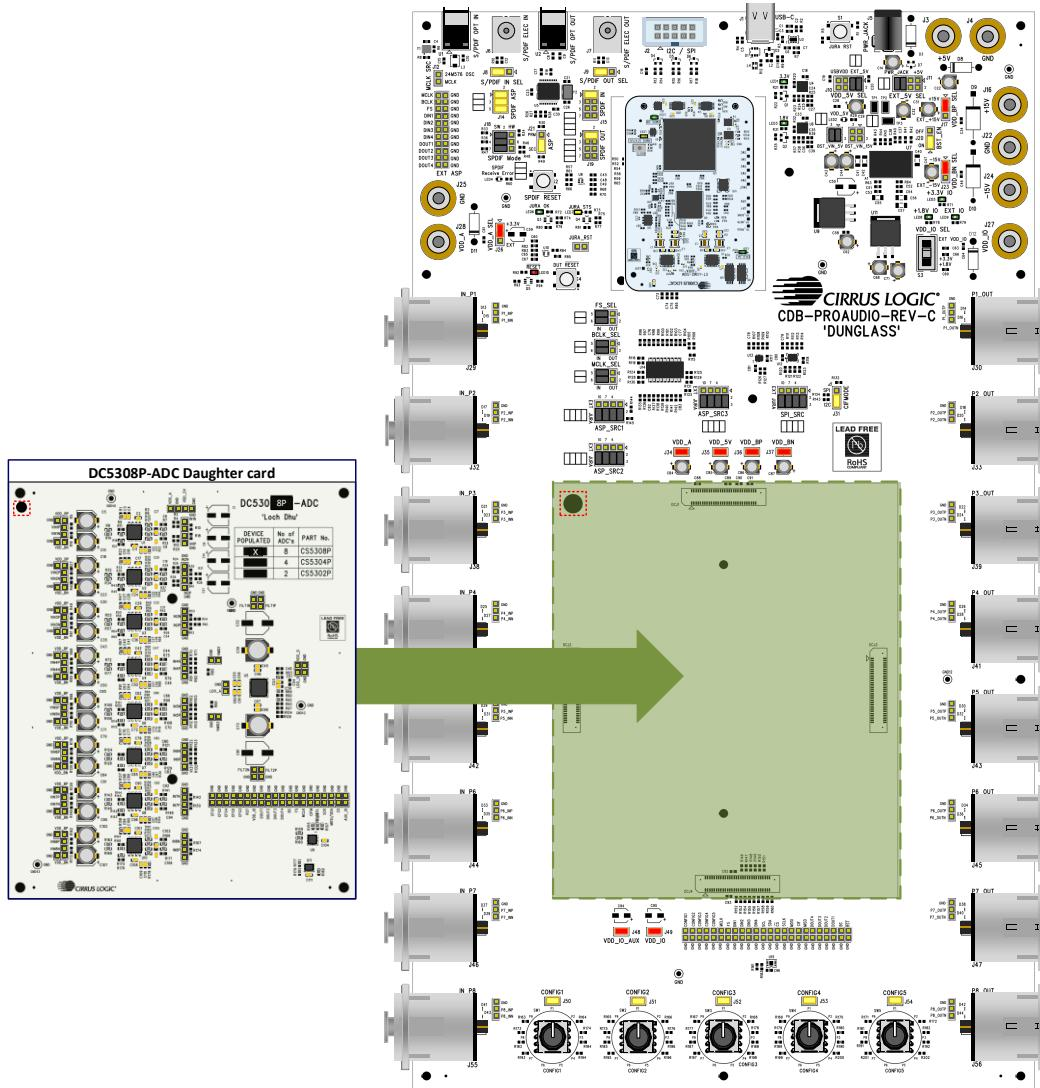

Figure 2: How to Connect DC5308P-ADC onto the Dunglass System
- Connect the hardware as shown in Figure 2